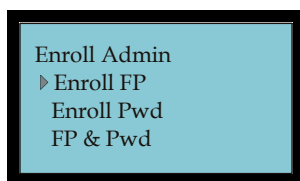

Figure 2-75 Enroll Admin Menu
3. Press **OK** to display the Enroll Admin menu (see **Figure 2-75**).